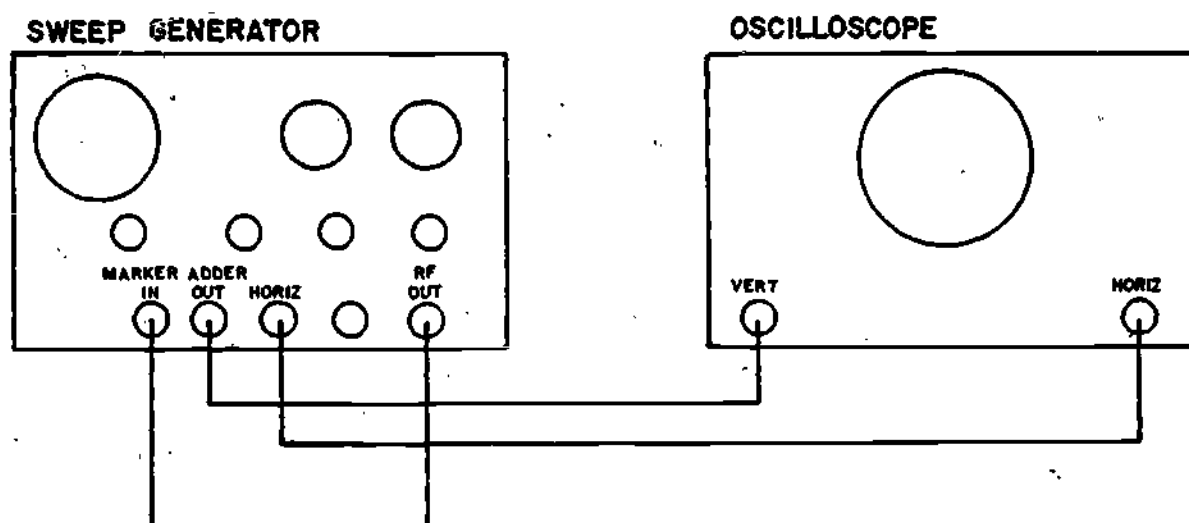

Figure 2
17. Connect the equipment as shown in Figure 2.
19. There should be a marker in the center of the scope. If the marker is not exactly centered on the scope and your sweep is centered, adjust your center frequency dial until the marker is centered on the scope. This is the zero (0) Hz marker. This will be used as a reference to locate the frequency that you want as the center frequency.